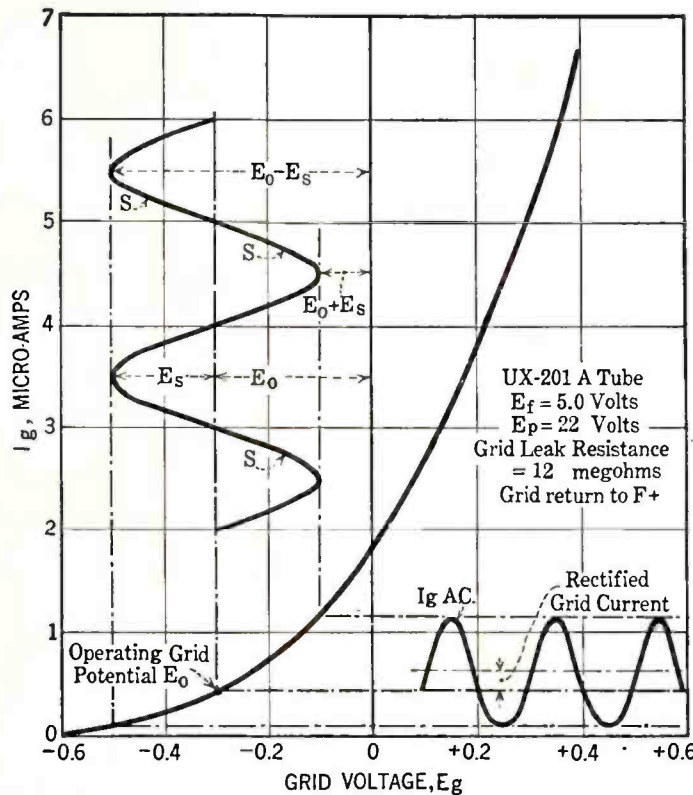

Fig. 1—Grid-current grid-voltage characteristic of a 201A-type tube
The relation between grid voltage and grid current in a typical vacuum tube is given in Fig. 1. It will be noted that there is a small grid current even when the grid is negative with respect to the negative side of the filament. This is the result of the velocity which the electrons have as they leave the filament.
In the absence of a radio signal voltage, the grid assumes a voltage which is the potential of the grid return lead (the lead which completes the circuit from the grid back to the filament) minus the voltage drop due to the grid current flowing through the grid leak. This can be readily seen by examining Fig. 2. This actual grid voltage is the operating grid potential, and gives the point on the grid-voltage grid-current characteristic of Fig. 1 at which the detector operates. The operating grid potential is usually within a fraction of a volt of the negative filament voltage when the grid return lead is connected to the positive side of the filament. A higher
nately more and less than the operating grid potential. This is illustrated in Fig. 1 in which  $E_0$  is the operating grid potential,  $E_s$  is the amplitude of signal voltage, and the curve SSS is the variation in actual grid potential when the signal voltage is present.
**T**HE signal makes the instantaneous grid voltage swing alternately from  $E_0 + E_s$  to  $E_0 - E_s$ , as indicated in Fig. 1. This fluctuation in grid voltage causes the grid current to vary, but, due to the curvature of the grid voltage-current characteristic, the grid current increases more during the half cycles when the signal voltage is positive than it decreases during the half cycles when the signal voltage is negative. The net result is a rectified current flowing in the grid circuit produced by the application of the radio-frequency signal voltage to the grid.
Reference to Fig. 1 will make clear how the rectification is accomplished. When the signal is present the instantaneous grid potential varies as indicated by the sine wave SSS. This variation in grid potential causes the grid current,  $I_{g\text{ a.c.}}$ , to vary according to the curve to the right in Fig. 1. The middle dot-dash horizontal line shows the grid current that flows when the grid potential is  $E_0$  (no signal present).